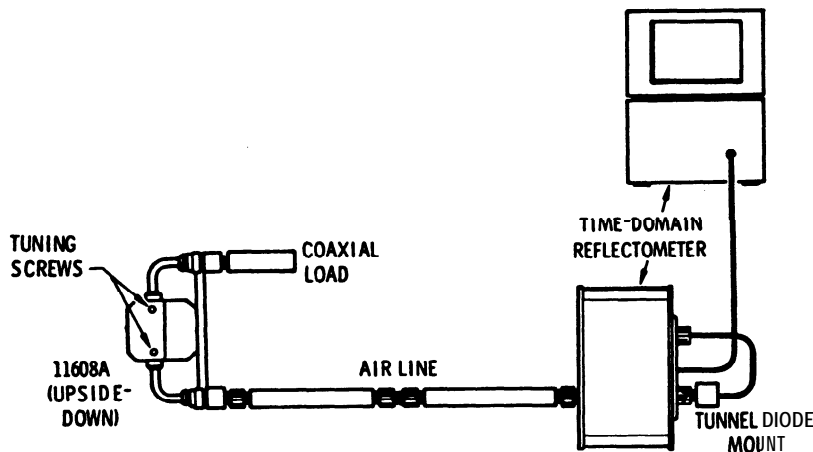

Figure I-8, TDR Adjustment Equipment Setup
This adjustment (Figure I-8) need be performed only for customer-machined fixtures to adjust the
1. Connect the equipment as shown in Figure I-8. Use the best load available.